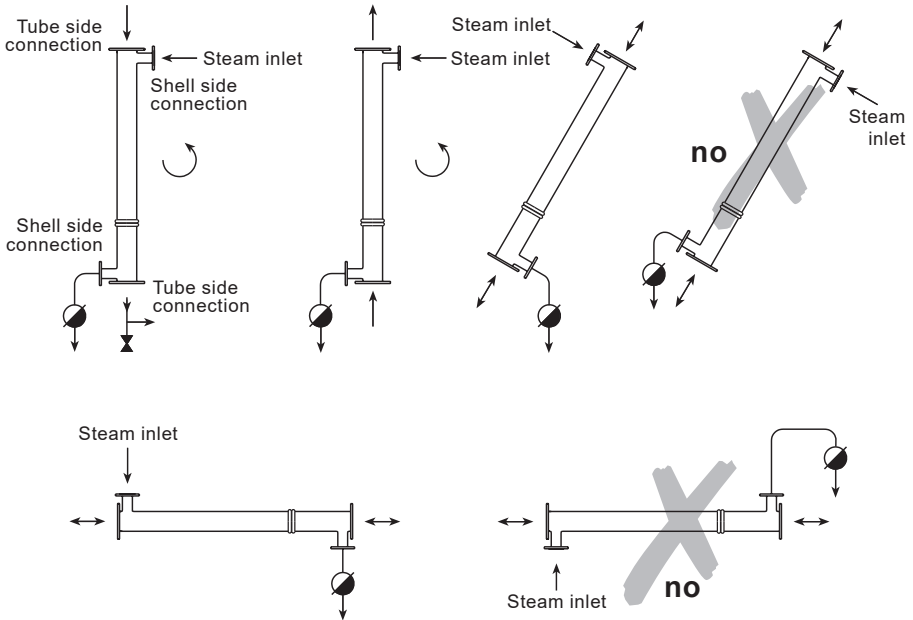

Fig. 4 Position when the shell side fluid is condensing steam
4.4 Due to the design features, this Series of heat exchanger can be installed in almost any position and with any direction of secondary flow. However, for maximum performance, countercurrent flow is advisable. To minimize the space required, the system should be positioned vertically. A vertical installation with tube side flow from top downwards will make it more difficult for substances to adhere to the walls and make it easier to expel the lime scale and dirt from the heat exchanger. This provides an effective trap for impurities and encrusted sedimentation. Figures 4 and 5 illustrate all possible installation positions.